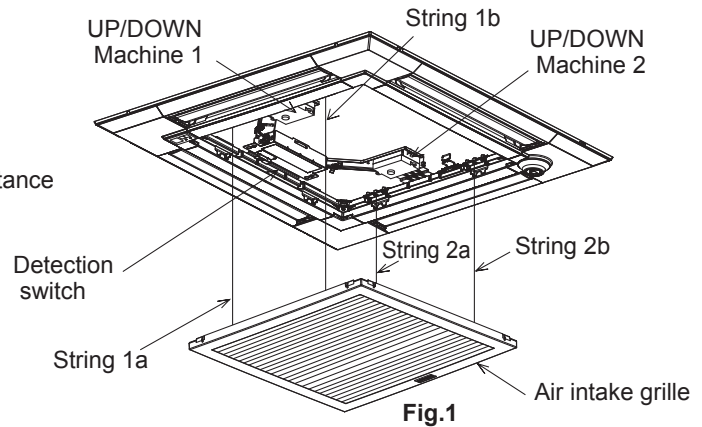

Fig.1
| SW22 Function selection | Switch | <table border="1"> <thead> <tr> <th></th> <th>Function</th> <th>ON</th> <th>OFF</th> </tr> </thead> <tbody> <tr> <td>1</td> <td>—</td> <td>—</td> <td>—</td> </tr> <tr> <td>2</td> <td>—</td> <td>—</td> <td>—</td> </tr> <tr> <td>3</td> <td>Pair No. of wireless remote controller</td> <td colspan="2" rowspan="2">Depends on the combination of SW22-3 and 22-4</td> </tr> <tr> <td>4</td> <td>Pair No. of wireless remote controller</td> </tr> </tbody> </table> <ul style="list-style-type: none"> To operate each indoor unit by each remote controller when installed 2 indoor units or more are near, Pair No. setting is necessary. <ul style="list-style-type: none"> Pair No. setting is available with the 4 patterns. Make setting for SW22-3, 22-4 of indoor controller board and the Pair No. of wireless remote controller. You may not set it when operating it by one remote controller. <ol style="list-style-type: none"> Setting for indoor unit <ul style="list-style-type: none"> Set SW22-3, 22-4 on the indoor controller board according to the table below. Wireless remote controller pair number: <ul style="list-style-type: none"> Setting operation (Fig. 1 ㉑) 1. Press the button ① to stop the air conditioner. 2. Press the button ②. 3. Check that function No."1" is displayed, and then press the button ③. The Screen display setting screen will be displayed. (Fig. 2.) Pair No. changing operation (Fig. 2 ㉒) 1. Press the button ④. 2. Each time the button ④ is pressed, the pair No.0-3 changes. 3. Press the button ③ to check the setting. 4. Press the button ②. <table border="1"> <thead> <tr> <th colspan="2">Indoor unit SW22</th> <th rowspan="2">Pair No. of wireless remote controller</th> <th rowspan="2"></th> </tr> <tr> <th>SW22-3</th> <th>SW22-4</th> </tr> </thead> <tbody> <tr> <td>ON</td> <td>ON</td> <td>0</td> <td>Initial setting</td> </tr> <tr> <td>OFF</td> <td>ON</td> <td>1</td> <td>—</td> </tr> <tr> <td>ON</td> <td>OFF</td> <td>2</td> <td>—</td> </tr> <tr> <td>OFF</td> <td>OFF</td> <td>3-9</td> <td>—</td> </tr> </tbody> </table> | | Function | ON | OFF | 1 | — | — | — | 2 | — | — | — | 3 | Pair No. of wireless remote controller | Depends on the combination of SW22-3 and 22-4 | | 4 | Pair No. of wireless remote controller | Indoor unit SW22 | | Pair No. of wireless remote controller | | SW22-3 | SW22-4 | ON | ON | 0 | Initial setting | OFF | ON | 1 | — | ON | OFF | 2 | — | OFF | OFF | 3-9 | — | | | Under operation or suspension | <Initial setting> Fig. 1 Fig. 2 |